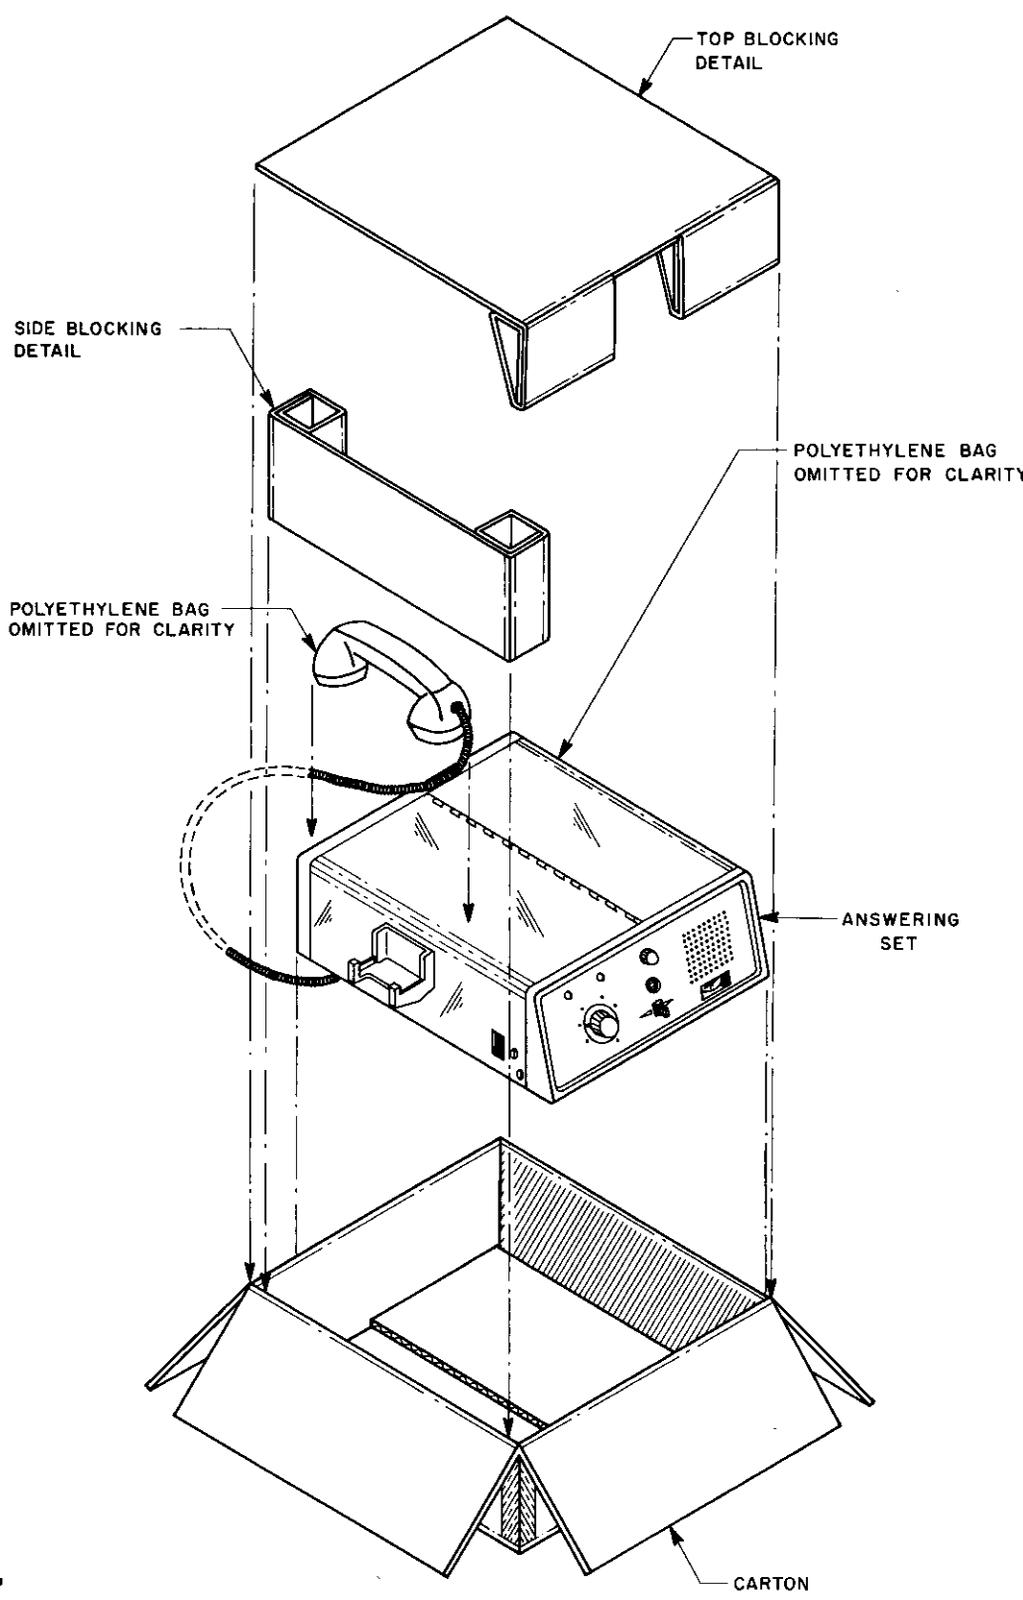

Fig. 1 — Packaging Material for KS-19245, List 1 Telephone Answering Set
- (1) Disconnect KS-19245, List 10 or 11 power cord.
- (2) Insert handset into polyethylene bag and secure handset in handset cradle.
- (3) Insert answering set into polyethylene bag and place into carton (Fig. 1). This carton has been dimensioned to provide a snug fit.
- (4) Block the set within the carton by means of a side blocking detail and a top blocking detail (Fig. 1).